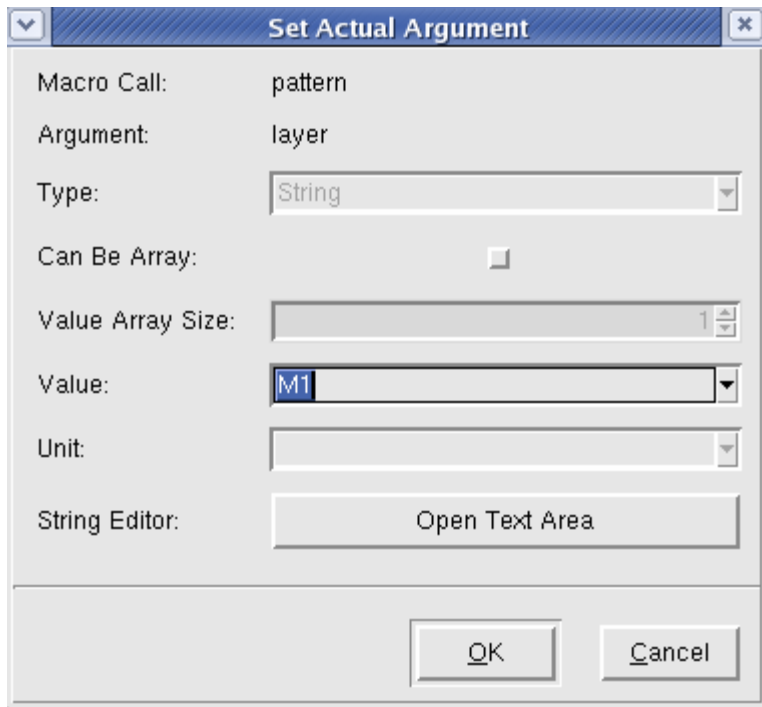
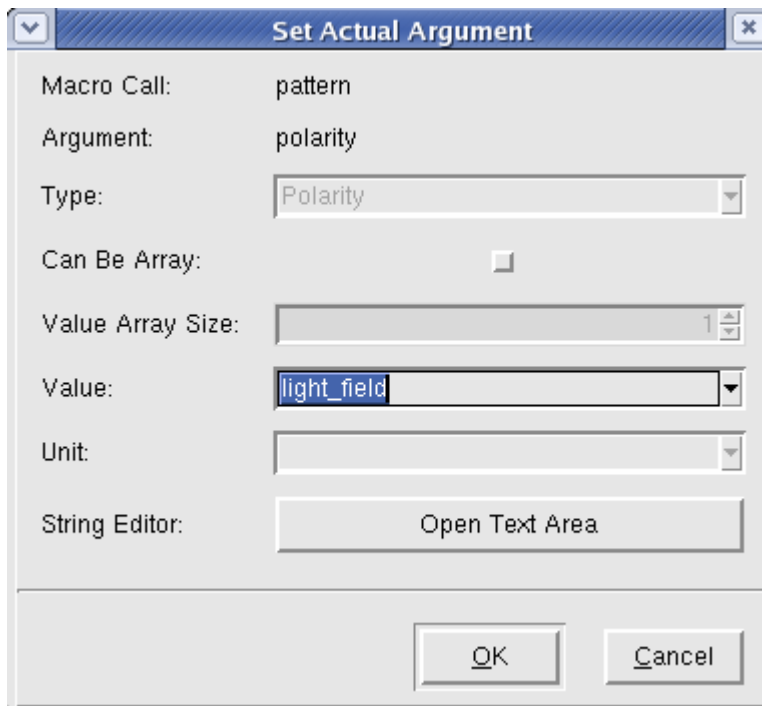
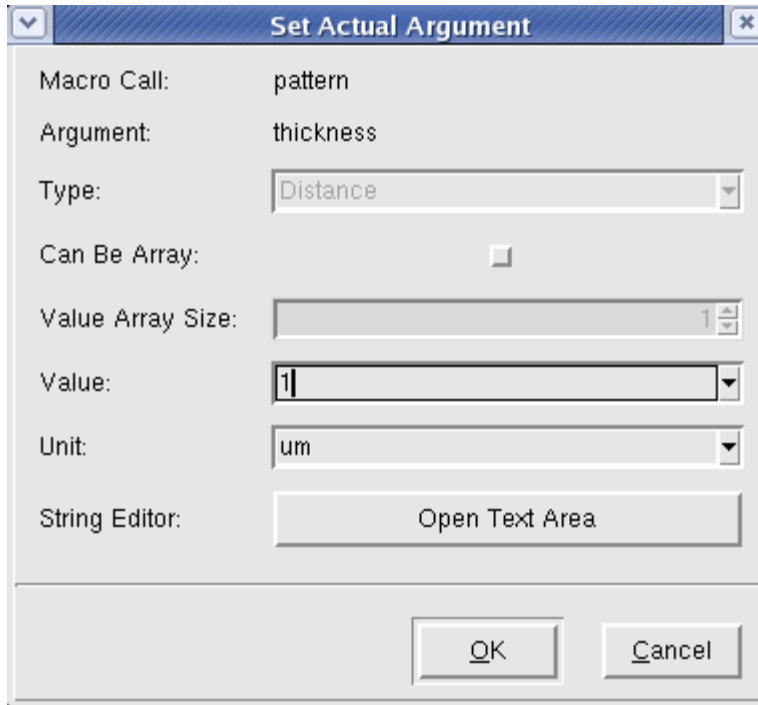

Figure 87: Pattern the M1 layer.
Figure 88: Setting Polarity.
Figure 89: Setting thickness.
20. Pattern the the M1 layer by adding a pattern statement. Set the layer to M1 (Figure 87), the polarity to light_field (Figure 88), and the thickness to 1um (Figure 89).